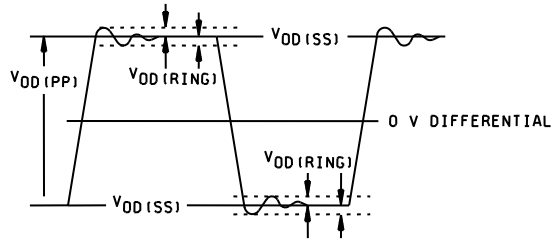

FIG 9. $V_{OD(RING)}$ WAVEFORMS AND DEFINITIONS
3. For figure 9, $V_{OD(RING)}$ is measured at four points on the output waveform, corresponding to overshoot and undershoot from the $V_{OD(H)}$ and $V_{OD(L)}$ steady state values.